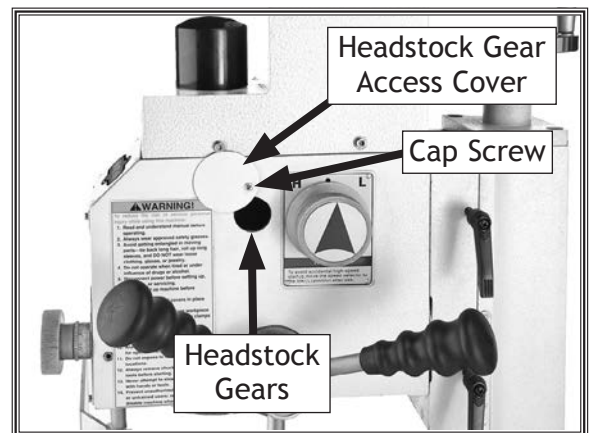

Figure 41. Headstock access cover and cap screw location.
1. Remove cap screw and headstock gear access cover shown in **Figure 41**.